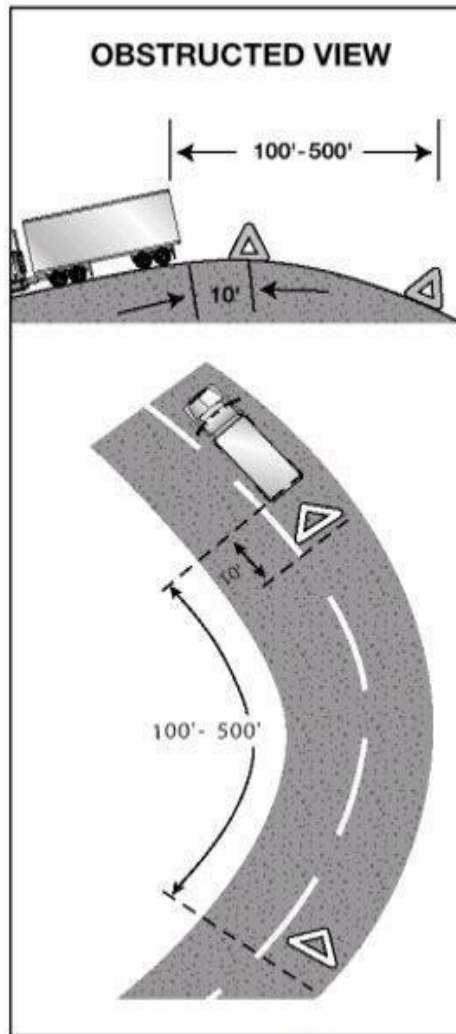

Figure 2.10
3. Back beyond any hill, curve, or other obstruction that prevents other drivers from seeing the vehicle within 500 feet. If line of sight view is obstructed due to a hill or curve, move the rear-most triangle to a point back down the road so warning is provided. See Figure 2.10.